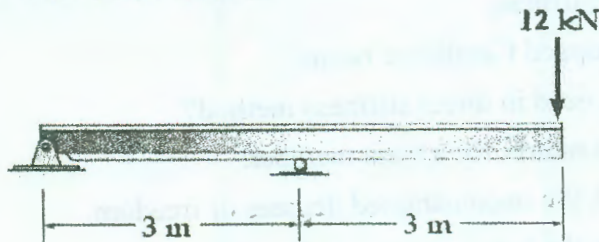

Fig.3
b) Determine the support reactions of the beam shown in Fig.3 using direct stiffness method. Take EI as constant. 8 4 5 2